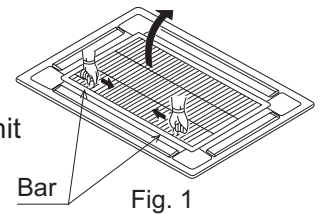

Fig. 1
- Be sure to see the Fig.1, when connecting and removing piping from unit.
- Cover joint of gas piping and insulator ⑦ with seal.
(1) Remove air inlet grill from ornament panel *
- ① Push in the bar on inlet grill and lift it up. (Refer to Fig. 1)
Open the intake grill and remove the three or four or six screws.(Fig. 1)